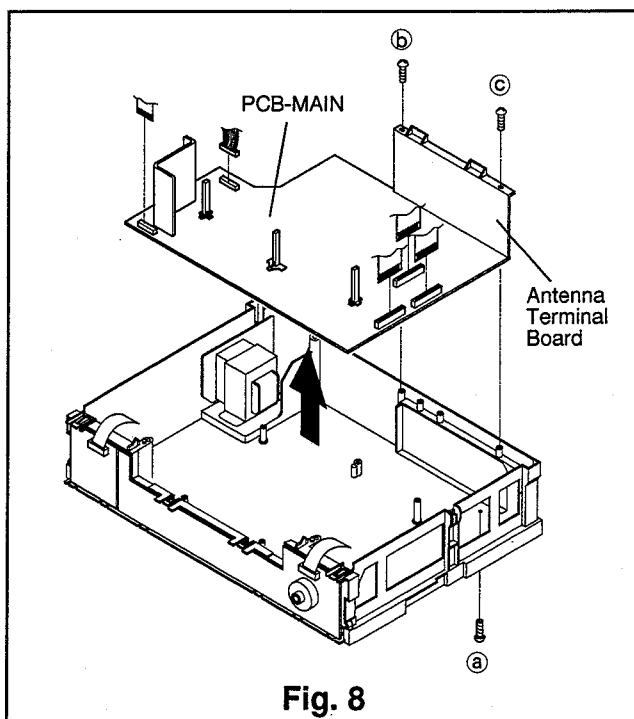

Fig. 8
- ④ If necessary, remove the Assy Deck refer to Para. 4 of the DISASSEMBLY. Remove one fastening screw (a) on the bottom and two fastening screws (b) and (c) on the Antenna Terminal Board shown in Fig. 8 and raise the PCB-MAIN upward to remove it.